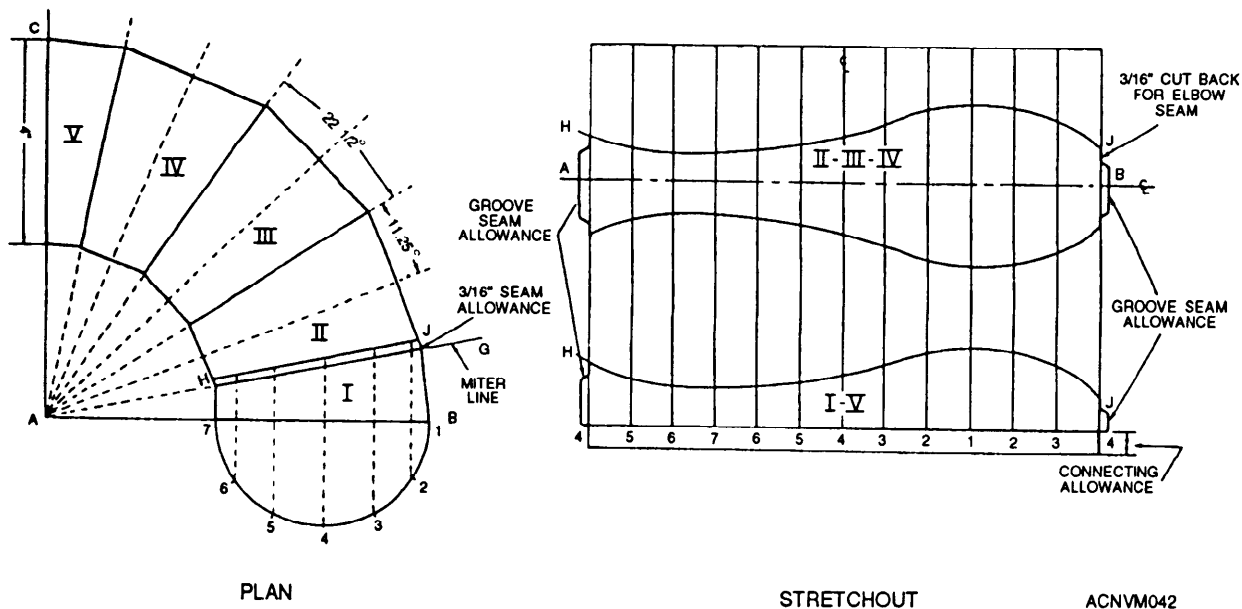

Figure 12-42.—Development of a five-piece 90-degree elbow.
The parallel line method can also be used to develop an elbow of any desired diameter, depth of throat, or number of pieces. Figure 12-42 shows the development
1. Using figure 12-42 as a guide, scribe horizontal line AB. From point A, scribe line AC to form angle CAB, which should be equal to the degree of angle that the elbow is to be. In this cast, we will use 90° for our elbow.
13. Erect perpendiculars from the base line of the stretchout and number them as shown in figure 12-42. The number with which you begin and end in your stretchout will determine the location of the seam in the finished elbow. The best location for a seam on an elbow is on the side, so you would number from 4 up to 7, then down to 1 and back up to 4. Numbering from 1 to 7 and back to 1, as was shown in the previous development, would place the seam on the heel. A layout done in this manner is undesirable because it would require more time and material to complete the seam. Numbering from 7 to 1 and back to 7 is also undesirable. This method would put the seam in the throat of the elbow; normally it would be too small to make a strong seam. The location of the seam is a matter of preference and is determined by the job you are laying out.